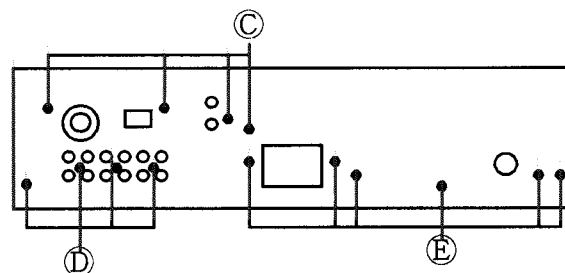

Fig 2. Rear View
3. Remove the 2 screws (B).
4. Remove the 4 screws (C) (Fig 2).
3. Remove the screws (C), (D) and (E) (Fig 2).